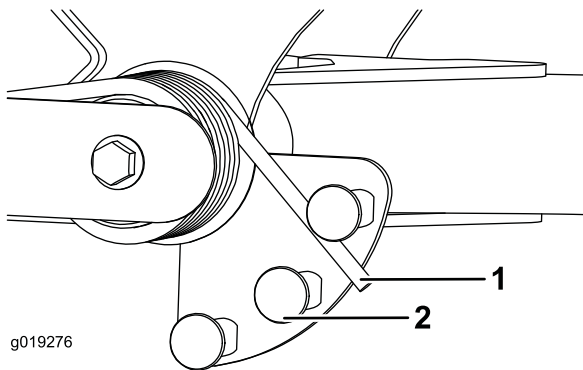

Figure 67
2. Insert a tube or similar object onto the long spring end and pivot it around the spring actuator to the desired position (Figure 67).